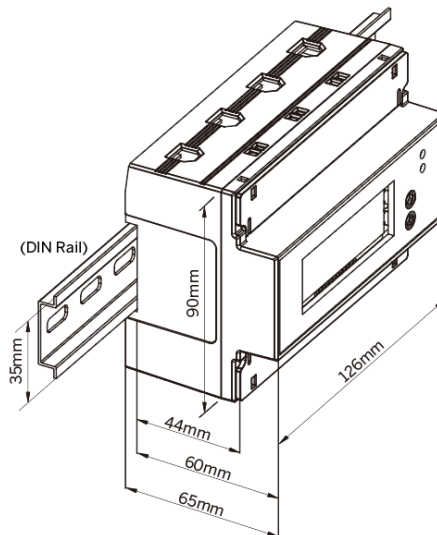

Figure 2-4 Installation
- Align the top of the mounting channel at the back of the PMC-340 at an angle against the top of the DIN Rail as shown in Figure 2-4 below